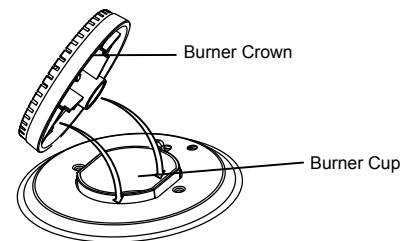

Figure 2
Removing the burners (Refer Figure 2)
- To do this, ensure that the 2 ribs on either side of the spark plug hole are positioned into the 2 slots on the burner cup. (See figure 2).
- Open the lever A completely on the left and right hinges(fig.2);
- Gently pull out the inner pane of glass(fig.2)